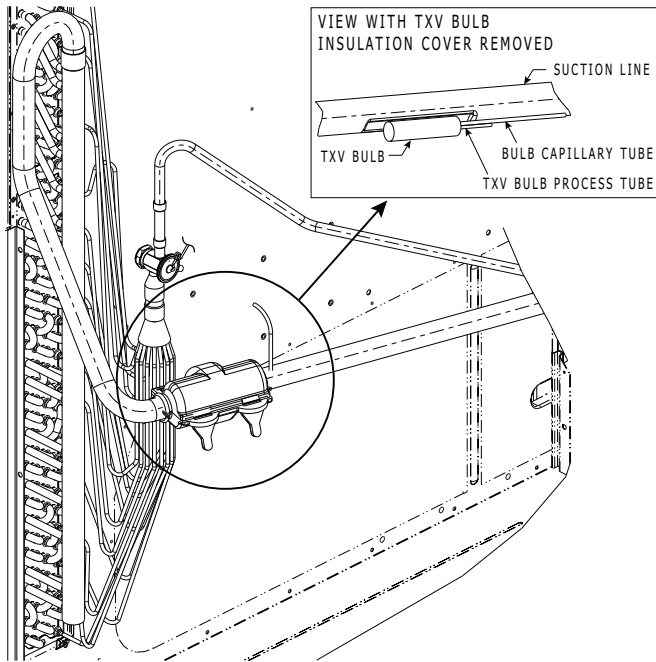

Fig. 21 — TXV Valve and Sensing Bulb Location
8. Attach TXV bulb in the same location where the original (in the sensing bulb indent) was when it was removed, using the supplied bulb clamps. See Fig. 21.